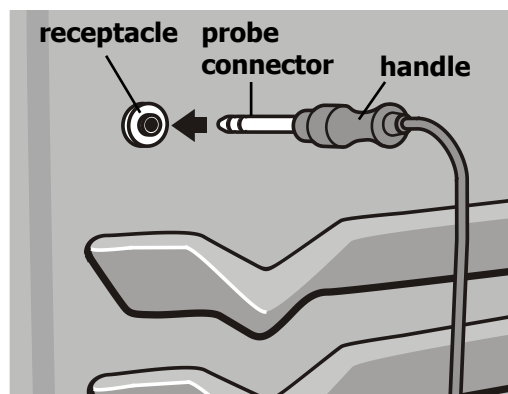

Fig. 2 -
3. Plug the connector end of the probe all the way into the probe receptacle while the oven is still cool. The **receptacle** is located on the upper left front oven cavity wall (Fig. 2).